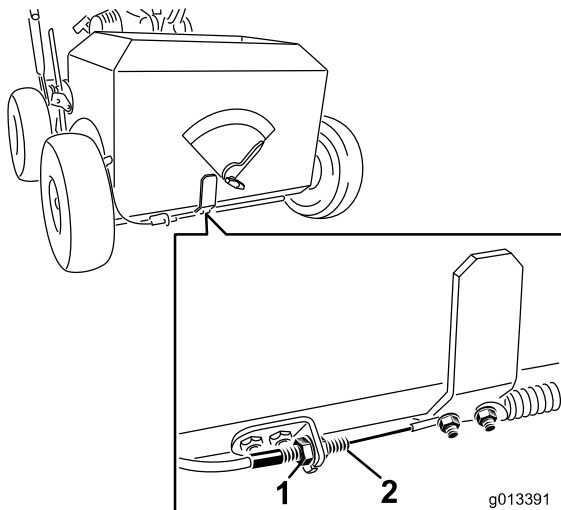

Figure 27
4. Loosen the nuts on the seed-gate control cable (see Figure 27).